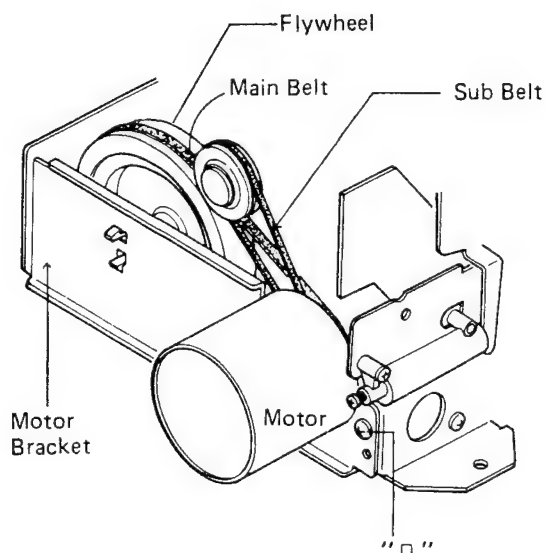
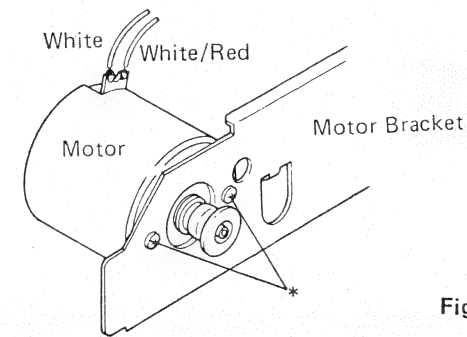

Figure 17
Figure 18
- (1) Remove a screw marked "□" and the motor bracket, and two belts can be removed as shown in Figure 17.
- (1) Remove a screw marked "□" as shown in Figure 17 and two screws marked "*" and two wires (white, white/red) from motor side as shown in Figure 18, and the motor can be removed.
- (2) After finishing assembling, confirm tape speed and wow/flutter with test tape (MTT-111).